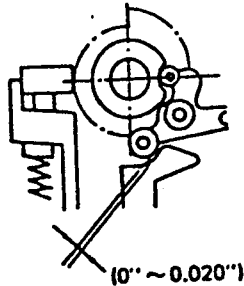

Fig. 9
- If the clearance is adjusted to 3 mm (0.118") or more; The pressure of spring ② will become too high when the machine runs at high speed, often causing the machine to idle and stop. It may also lead to inadequate torque at the start of high-speed running with consequent reduction in sewing speed. Also, the thread trimmer returning roller will interfere with the driving plate, resulting in thread trimming failure. (clearance : 0 to 0.5 mm (0.020")) (Fig. 9)